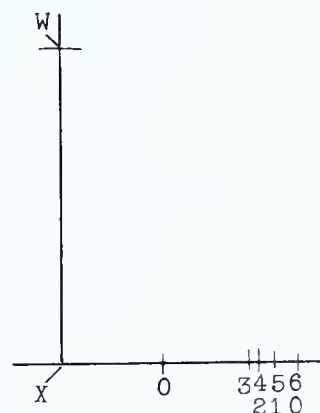

FIG. 297—Steps 10 to 16
10. Transfer this distance to  $x-o$  as shown in Fig. 297.
12. Transfer this distance to  $x-l$  as shown in Fig. 297.
14. Transfer this distance to  $x-2$  as shown in Fig. 297.
16. Transfer this distance to  $x-3$  as shown in Fig. 297.